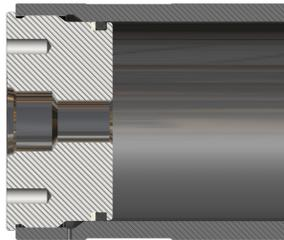

Figure 6 – Typical End-Cap Sealing Arrangement
5. Apply a system compatible lubricant to the end-cap threads. Turn the cap into the housing. Generally, this process is started by hand is followed by the use of a spanner wrench. The wrench is necessary to overcome the resistance of the o-ring and back-up ring while they are being inserted into the housing bore. Turn the cap until the flange seats or the end-cap is flush with the housing (See Figure 6). Finally, tighten the end-cap to the appropriate torque value (Reference the corresponding assembly drawing).